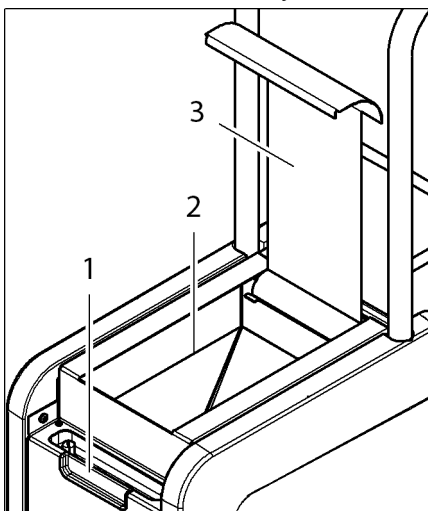

Fig. 9: Loading the filling hopper with dry ice
- Take hold of the recessed handle (item 1 in Fig. 9) and open the cover flap (item 3 in Fig. 9) over the filling hopper (item 2 in Fig. 9).
- Empty the filling hopper (item 2 in Fig. 9) if you intend to interrupt the blasting process for a long time.
- Open the cover flap (item 3 in Fig. 9) over the filling hopper (item 2 in Fig. 9).